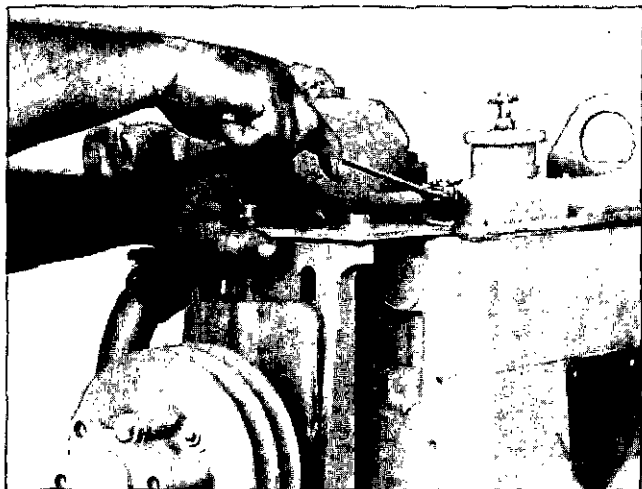

Fig. 0-29. Remove The Capscrews That Hold The Bracket.
4. Remove the capscrews and lockwashers that hold the adjusting bracket for the fan hub to the water pump body and the rocker lever housing, Fig. 0-29.